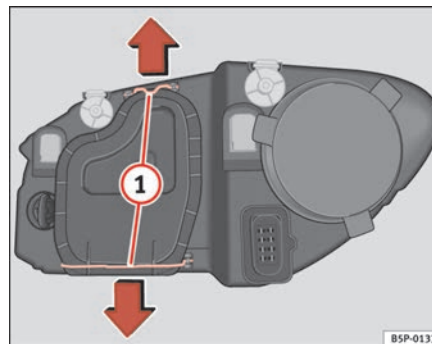

Fig. 160 Dipped head-lights
- Remove the loops ⇒ page 246, fig. 160 ① in the direction of the arrow and remove the cover.